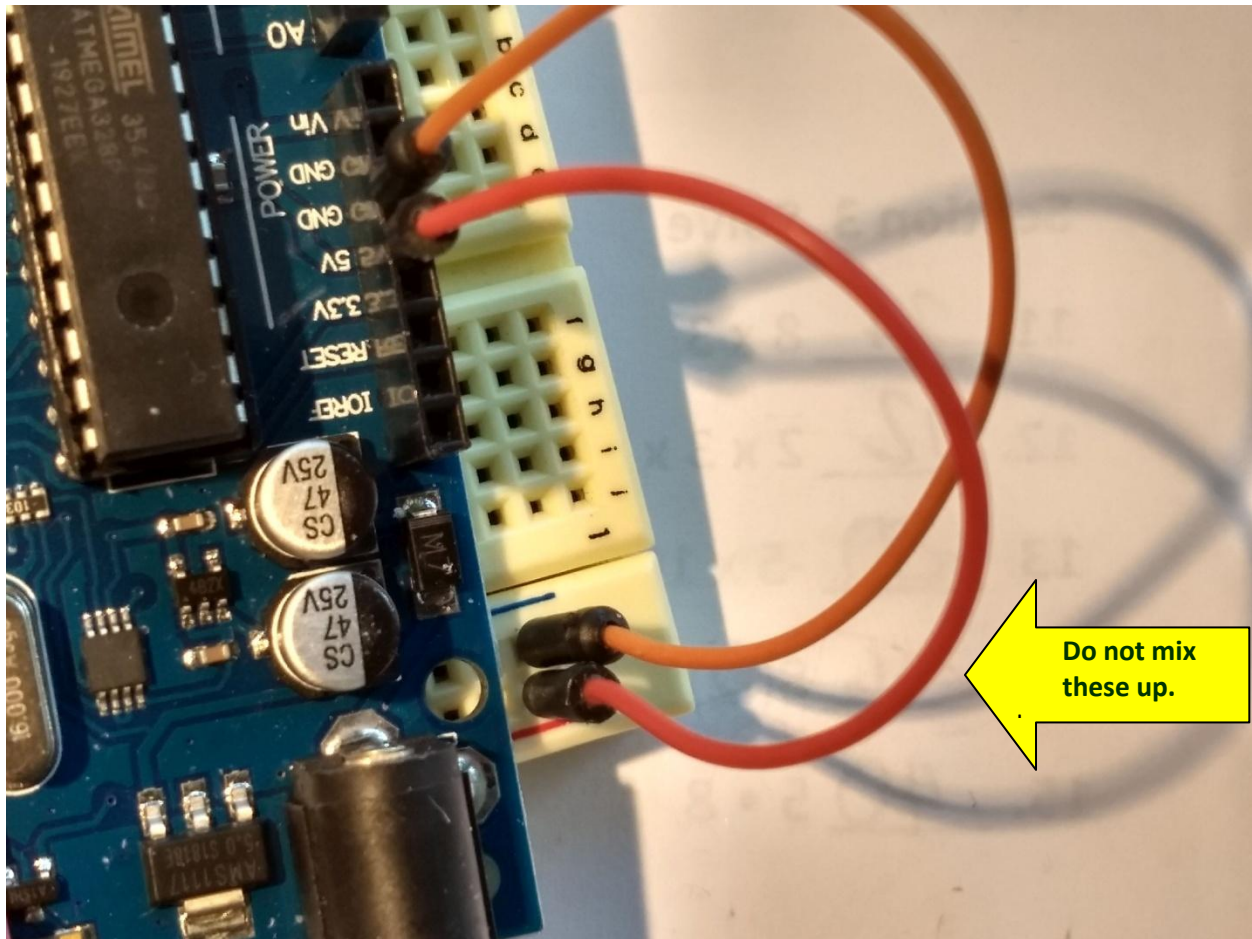

Figure 11. Arduino 5V and GND ports connected to the breadboard.
3. Connect the 5v port to the **red power rail** of the breadboard using a flexible jumper wire, and connect one of the GND1 ports on the Arduino to the **blue ground rail** of the breadboard. **Be sure you do not get these wires confused. Getting these backwards could destroy your Arduino.** See Figure 11.